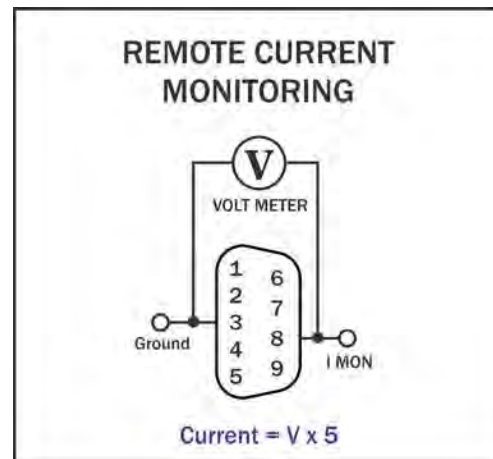

Figure 6.4 – Remote Current Monitor
**Method:** Connect a voltage meter to monitor the output current being produced by the amplifier. Connect across I MON (PIN 8) and Ground (PIN 3 or 6). See **Figure 6.4**.